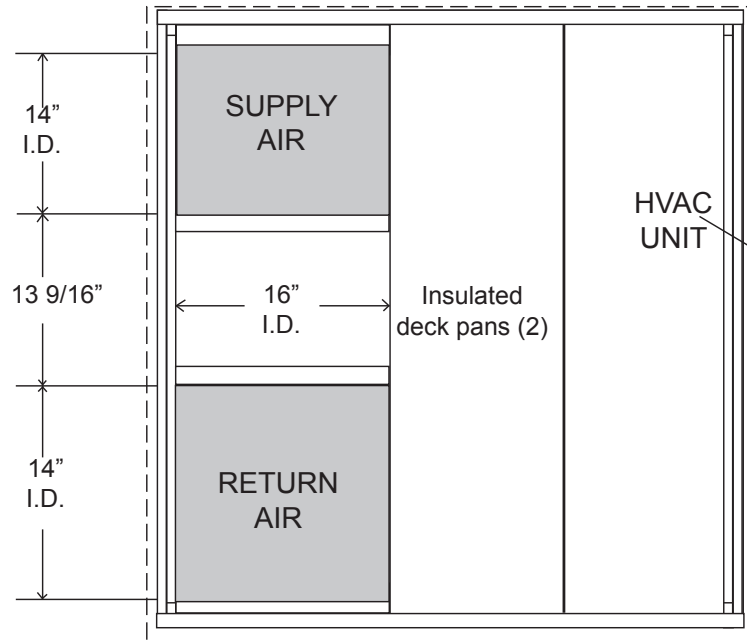

FIGURE 3 - LARGE CABINET
2. Cut hole in roof for duct openings. See Figure 3. It is not necessary to cut out the entire area of the roof curb.